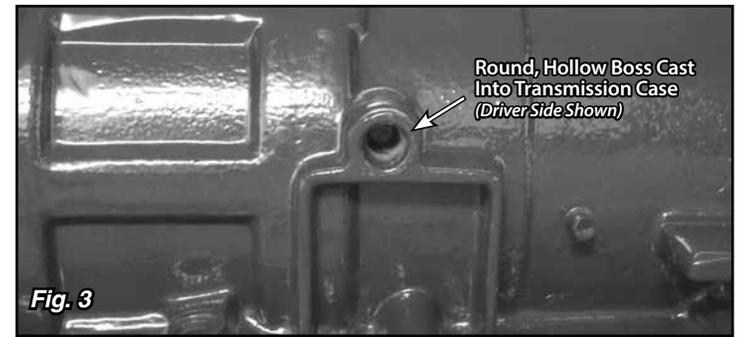

Fig. 3
**Step 3:** Attach the rear mounting bracket to the underside of the main plate with the bracket ears pointing to the front of the transmission (toward the engine) as shown in **Fig. 3**, using two 5/16"-24 x 1/2" button head bolts and lock washers. **DO NOT TIGHTEN AT THIS TIME.**
**Step 4:** Your transmission has two round, hollow bosses cast into the case, one on the left side and one on the right side. These bosses will be used to attach the shifter mounting bracket assembly to the transmission. Clean any paint or debris out of these bosses. **Fig. 3**